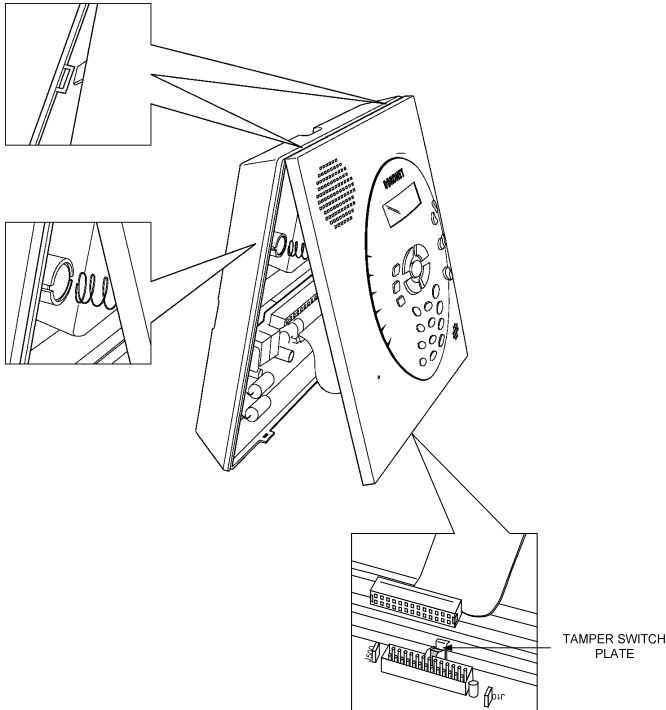

Figure 2-5: Locking tabs and Tamper Spring
- Snap the front panel onto the upper tabs of the appropriate slots on the back panel. Pay attention to the placing of the tamper spring (see figure 2-5).